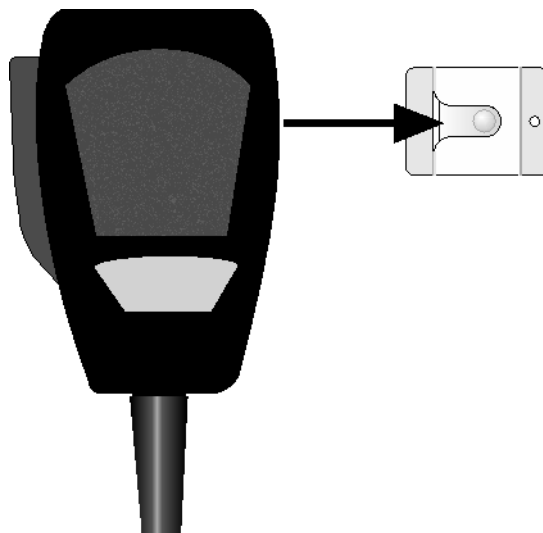

Figure 4-54 Sliding Microphone into Microphone Clip
1. Clip the microphone into the micro phone clip. See Figure 4-54.